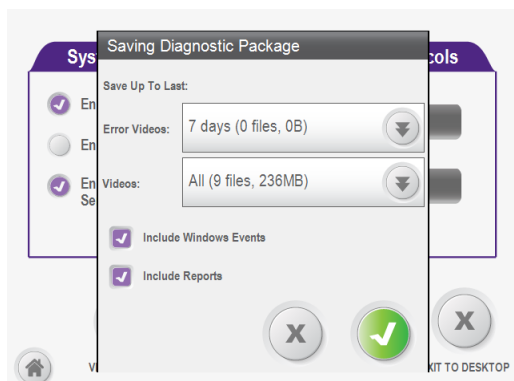

Figure 28. Saving Diagnostic Package Window
2. Select  [Diagnostic Package]. Saving Diagnostic Package pop up window will appear on screen (Figure 28).
3. If saving video log and/or error video log files, specify date range to obtain required videos. Windows Events and End of Run Reports can also be included in the diagnostic package by selecting the checkbox (Figure 28).